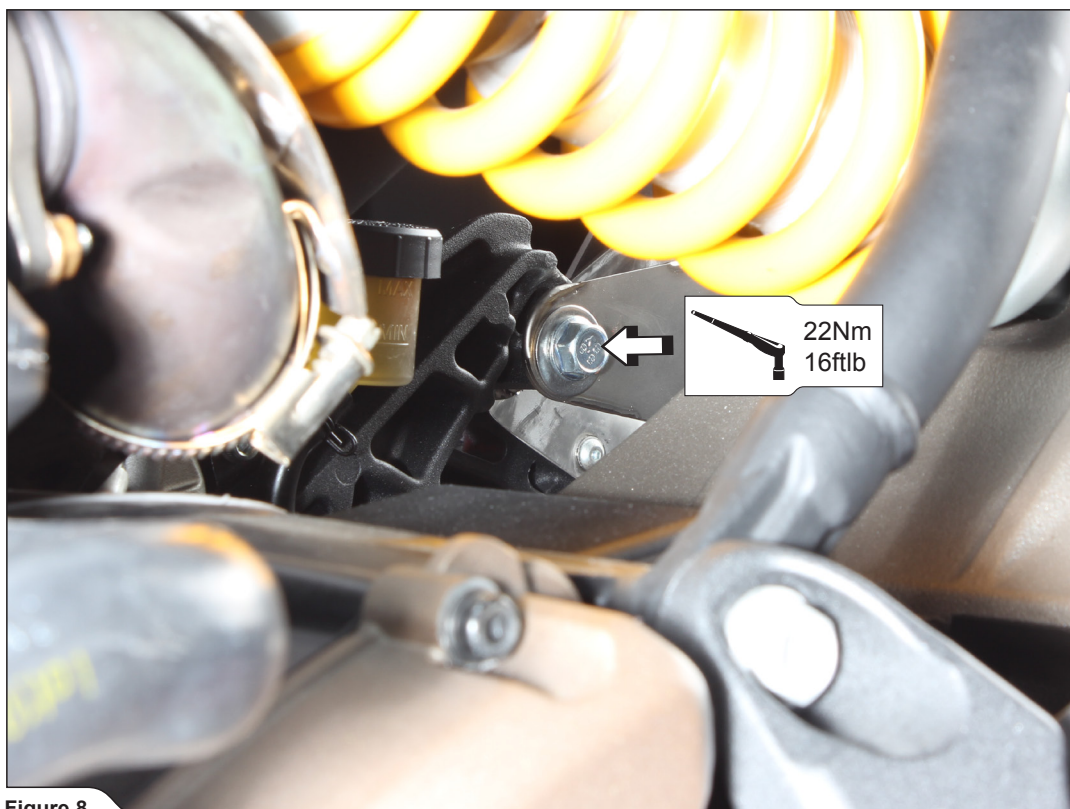

Figure 8
4. Align the muffler in respect to the motorcycle and tighten the muffler's bracket bolt, Akrapovič clamp and stock clamp to the specified torque (**Figure 8, 9, 10**).